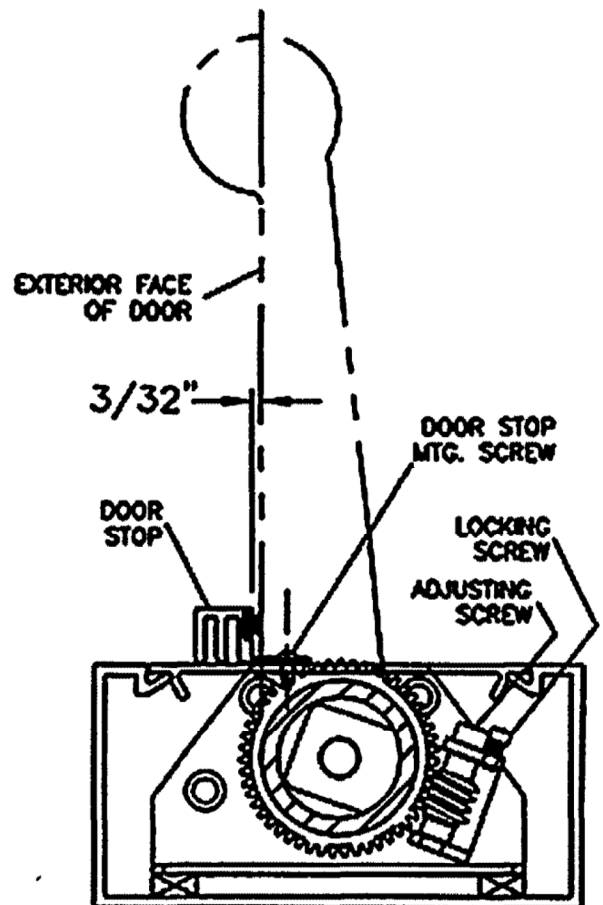

FIG. 9
12. Adjust the main closing force (see FIG. 9).